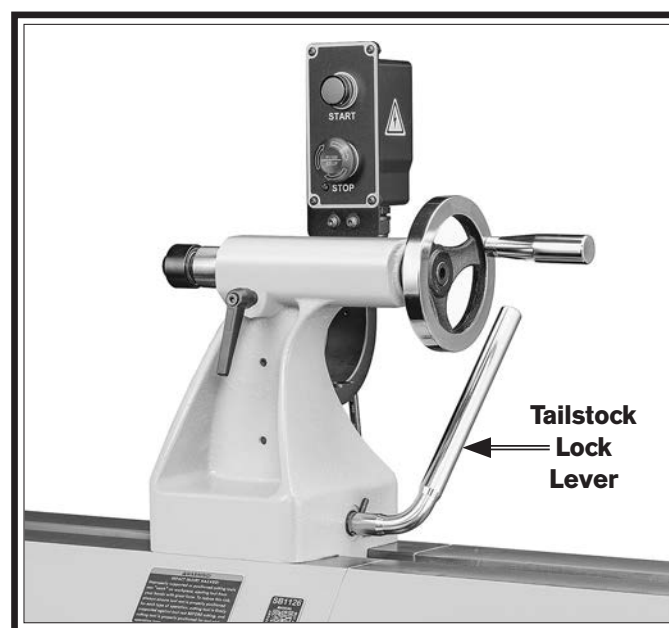

Figure 18. Tailstock lock lever location.
1. Loosen tailstock lock lever and move tailstock to desired position along bed, as shown in **Figure 18**.